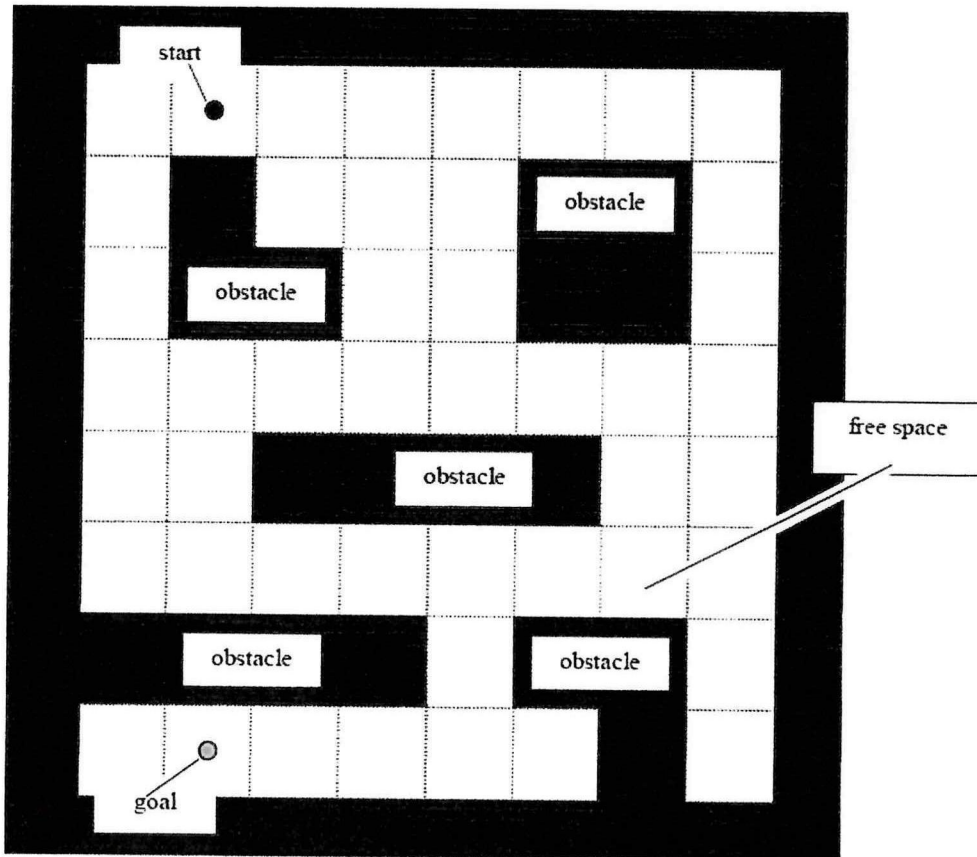

Figure Q3
- (b) **Figure Q3** shows the confined workspace of a point-like mobile robot. In the free space (white areas) the robot can move freely; the black areas represent obstacles. Use the **exact cell decomposition method** to decompose the robot's free space.
Explain whether a solution can be found using the wall-following algorithm to solve the problem shown in **Figure Q3**. Consider the two starting conditions, ‘start moving left’ and ‘start moving right’, separately.